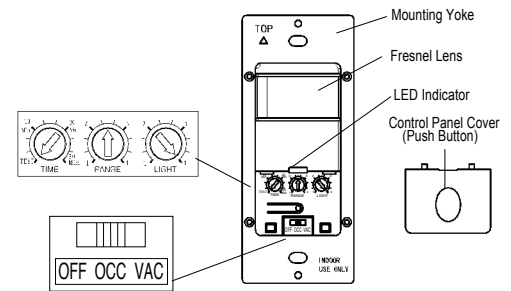

Figure 4
8. Locate the adjustment knobs on the control panel to perform test. and adjustments. (Illustrated as Figure 4.)
Ambient Light Dial: The ambient light setting is adjusted with the Ambient Light dial (refer to figure 4). Turning the Light Dial fully counter clockwise (CW), lights always turn ON, when the motion is detected. All other settings will cause the lights to turn ON only when the light level is less than the setting.